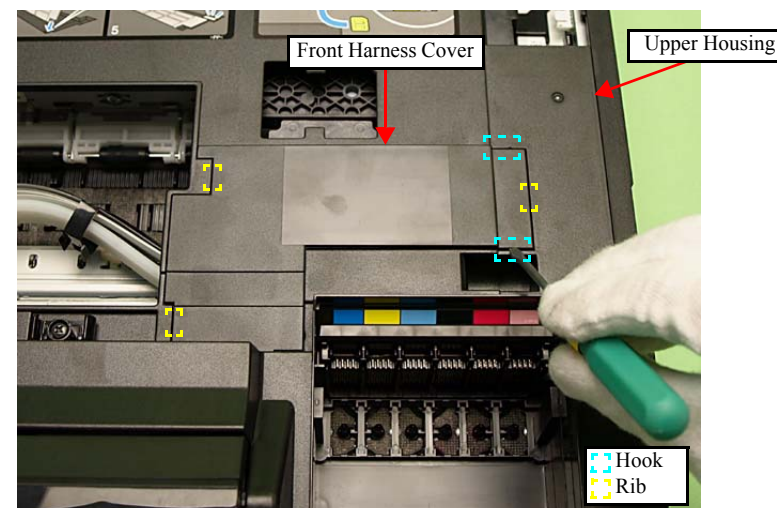

Figure 4-16. Removing the Upper Housing (1)
- When installing the Front Harness Cover, insert the ribs (x3) of the Front Harness Cover to the Upper Housing, and secure them with the hooks (x2). (See Fig. 4-16.)